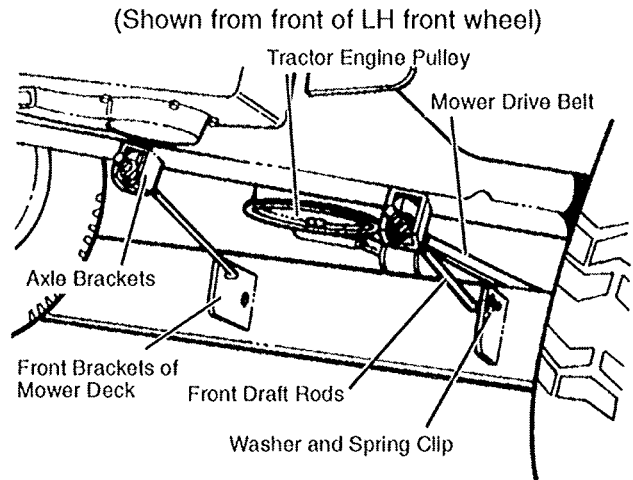

FIG. 10
- Remove the front draft rod assemblies from parts bag and insert through holes in brackets on the bottom of front axle. (See Fig. 10)
- Position mower drive belt onto tractor engine pulley, inside of the belt guides. (See Fig. 10 and 11)